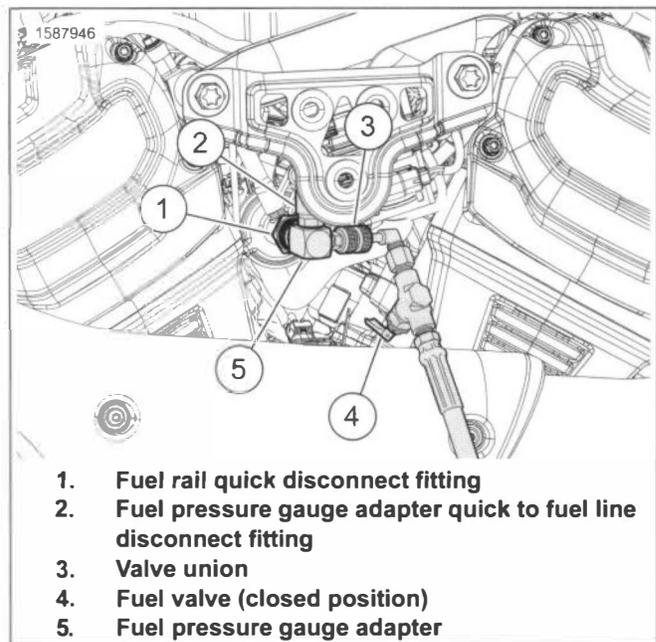

Figure 6-9. Fuel Pressure Test Fittings
1. See Figure 6-9. Attach fuel pressure gauge adapter (5) to fuel rail quick disconnect fitting (1) and fuel line (2).